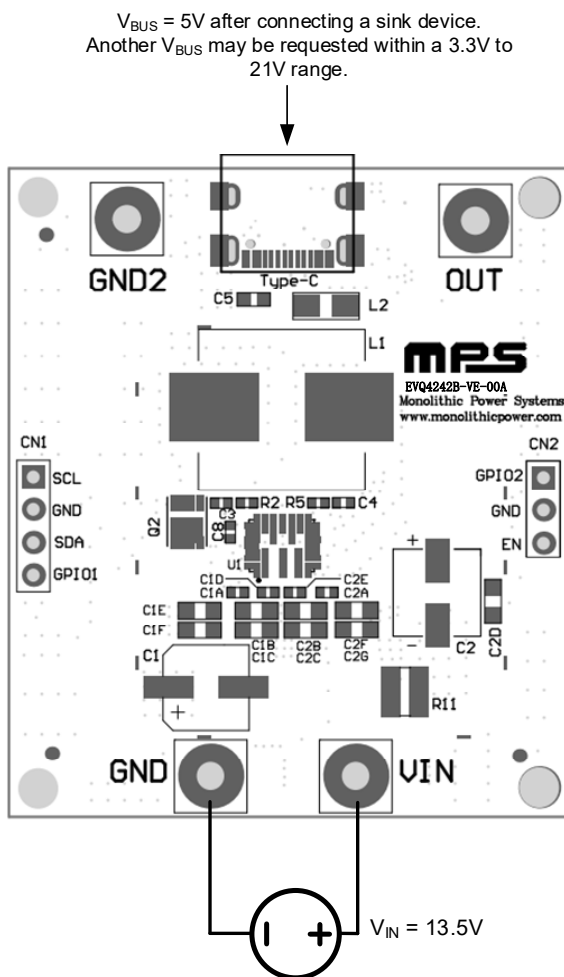

Figure 1: Measurement Equipment Set-Up
The EVQ4242B-VE-00A evaluation board is easy to set up and use to evaluate the MPQ4242B's performance. For proper measurement equipment set-up, refer to Figure 1 on page 4 and follow the steps below:
9. Figure 1 shows the measurement equipment set-up.